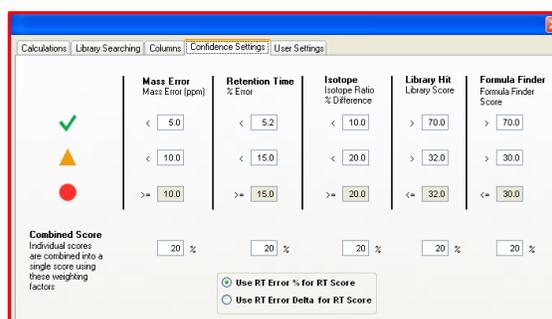

Figure 15. Confidence settings for compound identification
- Confidence settings for compound identification based on mass error, retention time error, isotope matching, library searching purity scores, Formula Finder result and combined scoring can be adjusted based on your laboratories' quality control criteria (Figure 15).